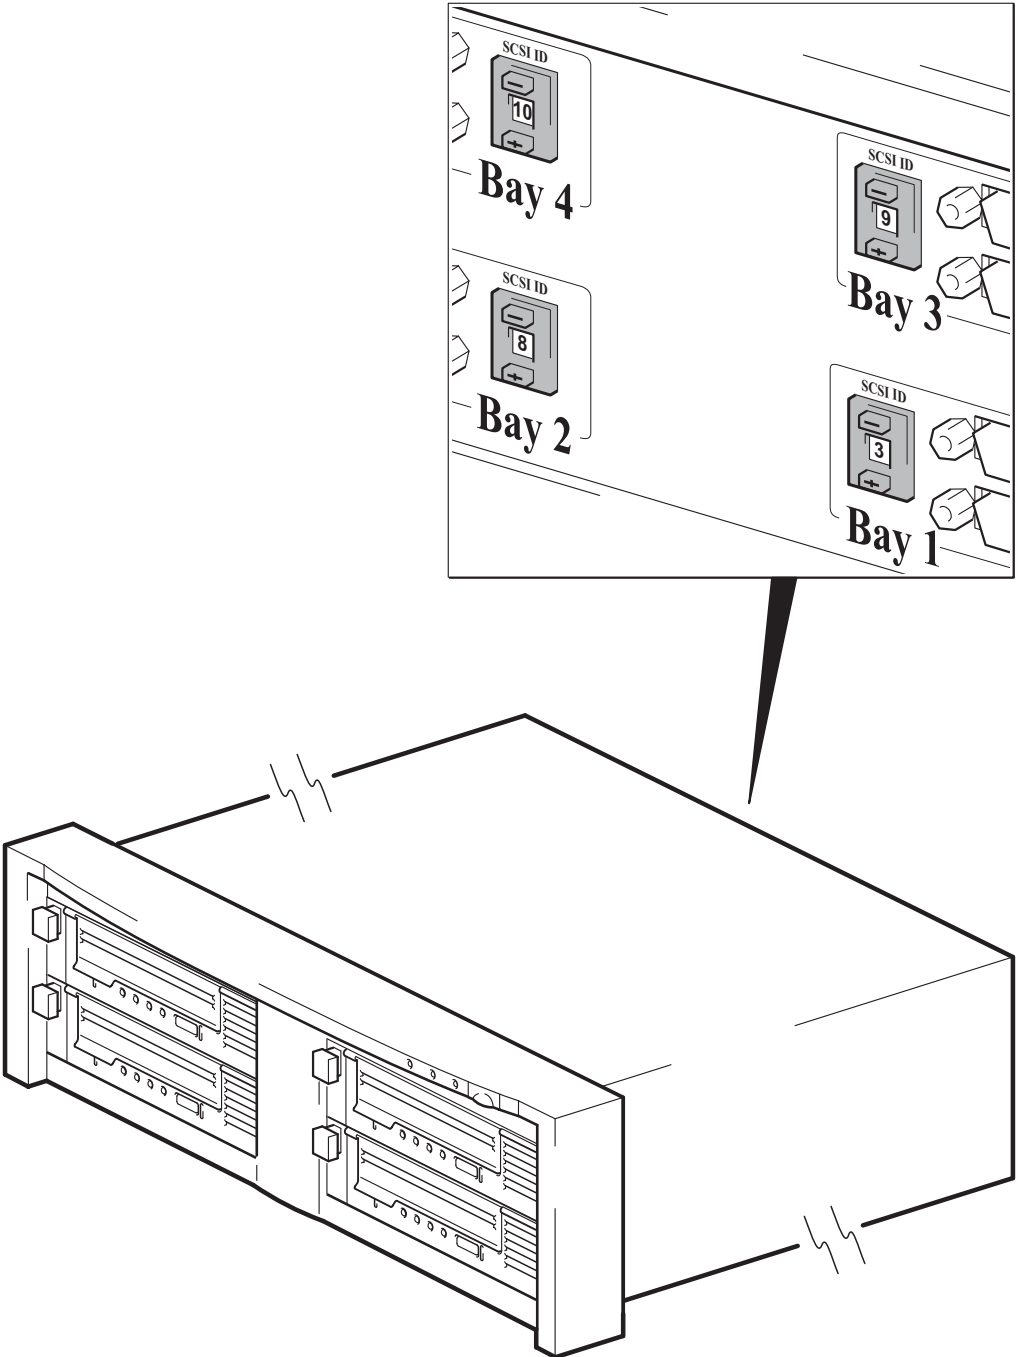

Figure 5: setting the SCSI ID
- 2 Set the appropriate switch. Figure 5 shows the address switch on the back panel of the HP StorageWorks Tape Array 5300.